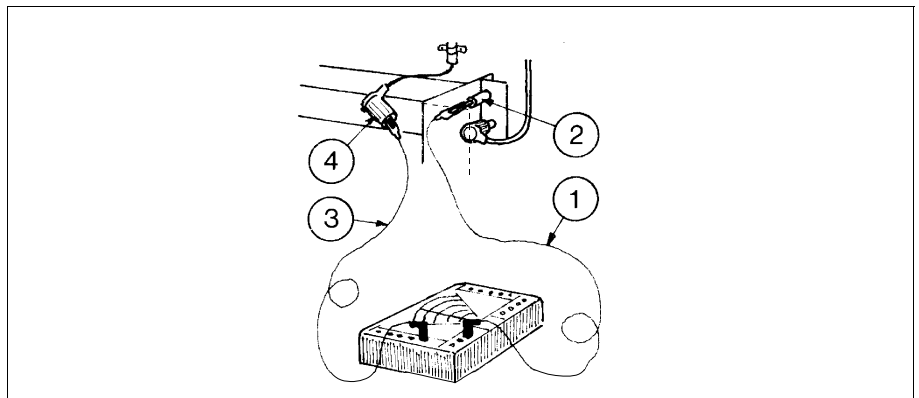

Fig. 27 Measuring ionisation
- e. Connect a  $\mu\text{A}$ -meter (0 - 50  $\mu\text{A}$ ) in series with the flame detection circuit. While measuring ionisation the main burner should stay switched off. To do this, disconnect the main gas valve by breaking the electrical connection by removing the plug. Connect the black wire (-) (1) of the  $\mu\text{A}$ -meter with the ionisation connector electrode (2) on the water heater (fig. 27). Connect the red wire (+) (3) of the  $\mu\text{A}$ -meter with the ionisation cap (4). The ionisation of the pilot burner must show a minimum of 5  $\mu\text{A}$  during 10 seconds after which the burner falls into flame detection lockout. Wire the main gas valve back to its originally conditions.